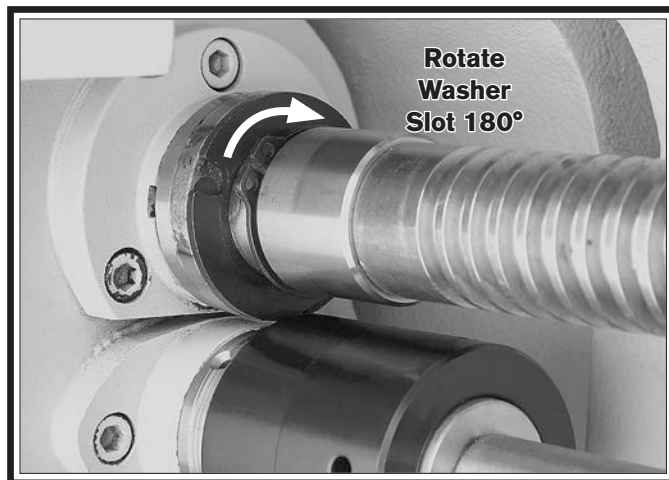

Figure 133. Shroud washer positioning.
9. With the pin completely seated in the bore and the head flush with the leadscrew shoulder, slide the shroud washer against the shoulder, then rotate the washer 180° to completely cover the head of the shear pin, as shown in **Figure 133**.